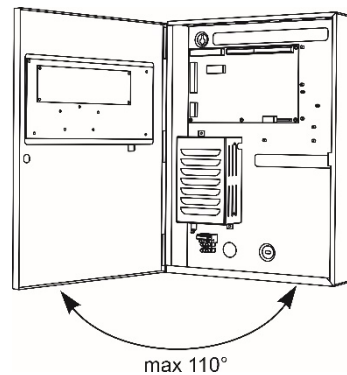

Figure 2
- Open the front cover. **Attention:** The cover is mounted to the box bottom with hinges fixed with dismantable rivets. The angle of opening of the front cover must not be greater than  $110^{\circ}$  - Figure2!